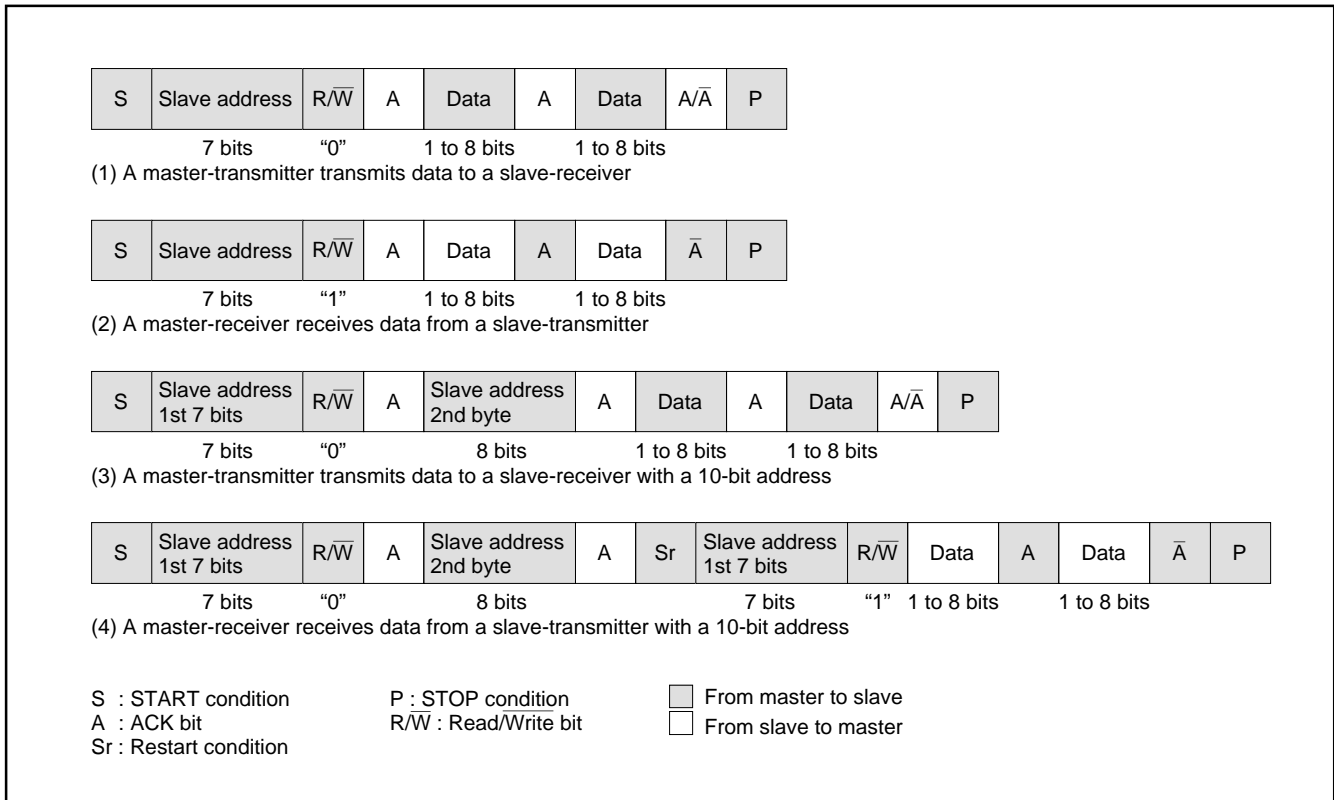

Fig. 52. Address Data Communication Format
To meet the 7-bit addressing format, set the 10BIT SAD bit of the I2C control register (address 00F916) to "0." The first 7-bit address data transmitted from the master is compared with the high-order 7-bit slave address stored in the I2C address register (address 00F716). At the time of this comparison, address comparison of the RBW bit of the I2C address register (address 00F716) is not made. For the data transmission format when the 7-bit addressing format is selected, refer to Figure 52, (1) and (2).
When the first-byte address data matches the slave address, the AAS bit of the I2C status register (address 00F816) is set to "1." After the second-byte address data is stored into the I2C data shift register (address 00F616), make an address comparison between the second-byte data and the slave address by software. When the address data of the 2nd bytes matches the slave address, set the RBW bit of the I2C address register (address 00F716) to "1" by software. This processing can match the 7-bit slave address and  $\overline{R/W}$  data, which are received after a RESTART condition is detected, with the value of the I2C address register (address 00F716). For the data transmission format when the 10-bit addressing format is selected, refer to Figure 52, (3) and (4).